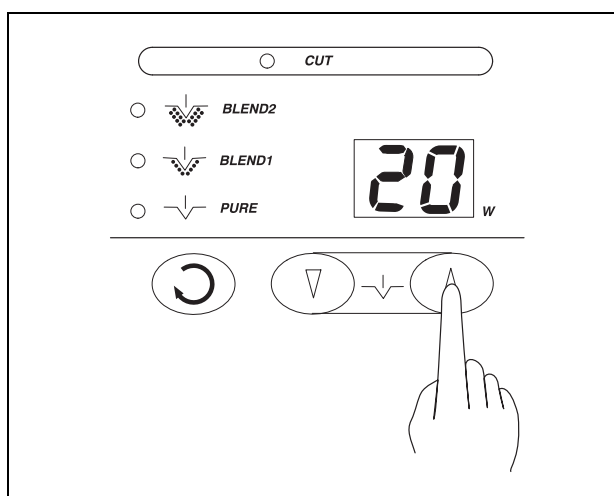

Figure 4.9
2. Press one of the "CUT" output control buttons. Confirm that the value shown on the cut output setting indicator increases or decrease each time the button is pressed (see Figure 4.9).